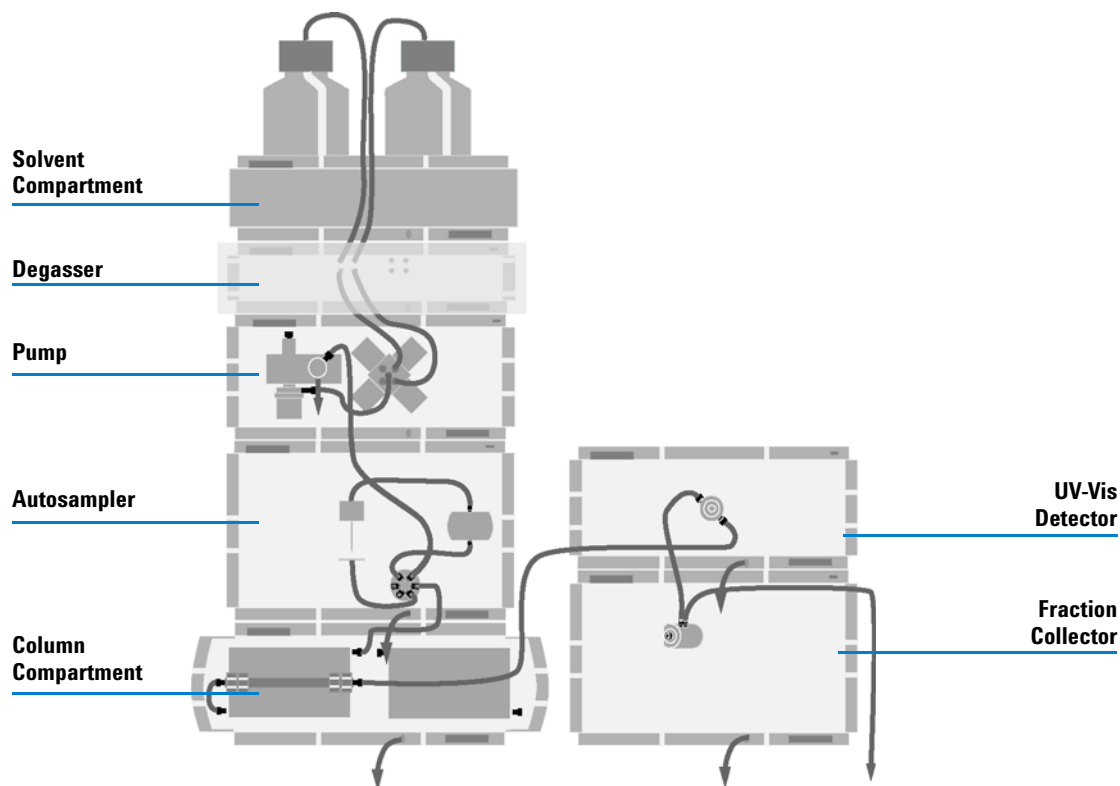
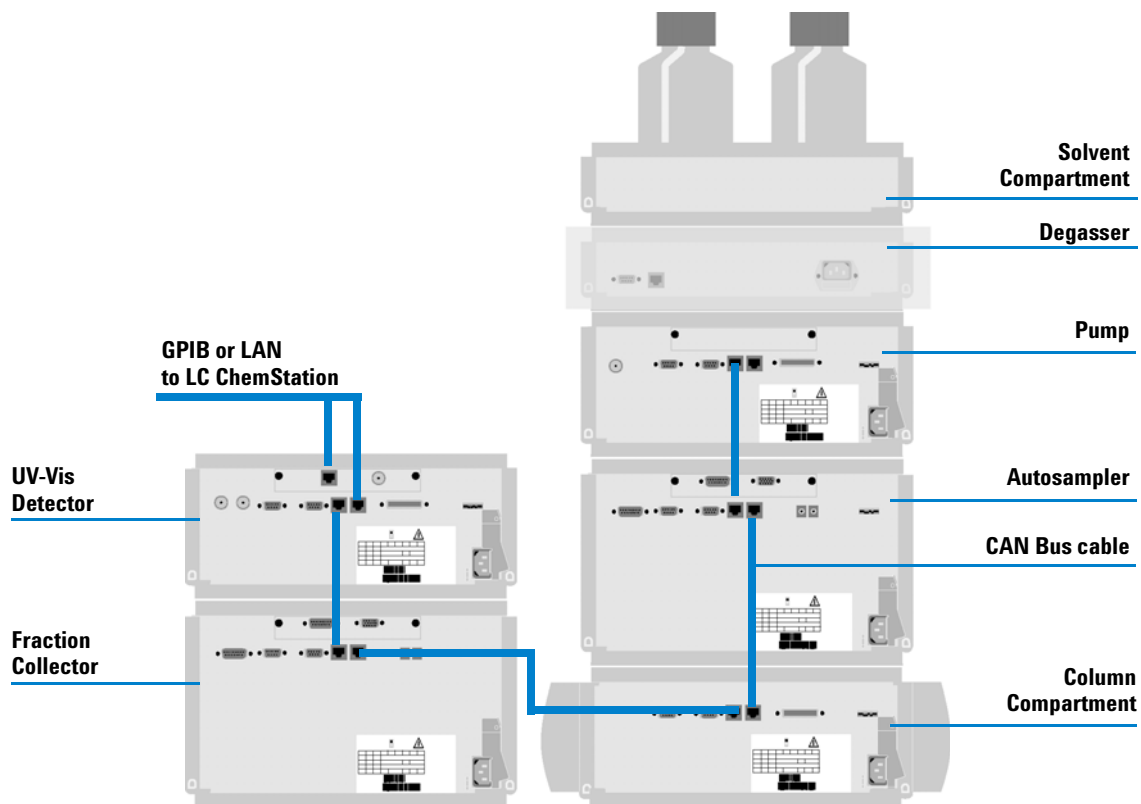

Figure 1 Recommended Stack Configuration - Fraction Collector in an Analytical System (Front View)
Figure 2 Recommended Stack Configuration - Fraction Collector in an Analytical System (Rear View)
- Figure 1 and Figure 2 on page 19 show the configuration recommended for the Fraction Collector in an analytical scale system.